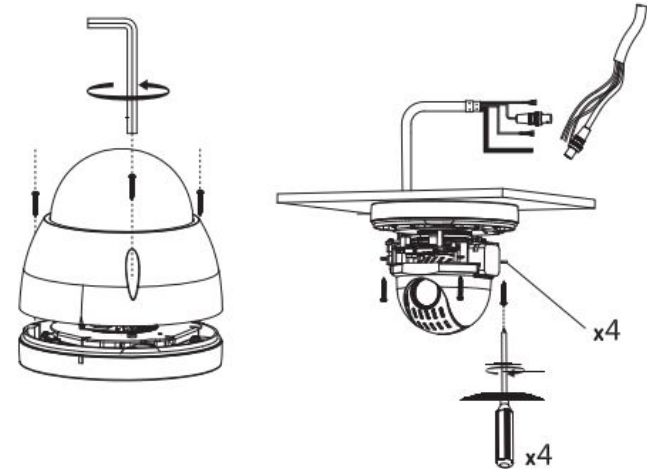

Figure 2-3
**Step 3** Remove the dome cover using the wrench provided. Thread the cabling through the cable exit on the installation surface and install the mounting screws as shown in Figure 2-3.